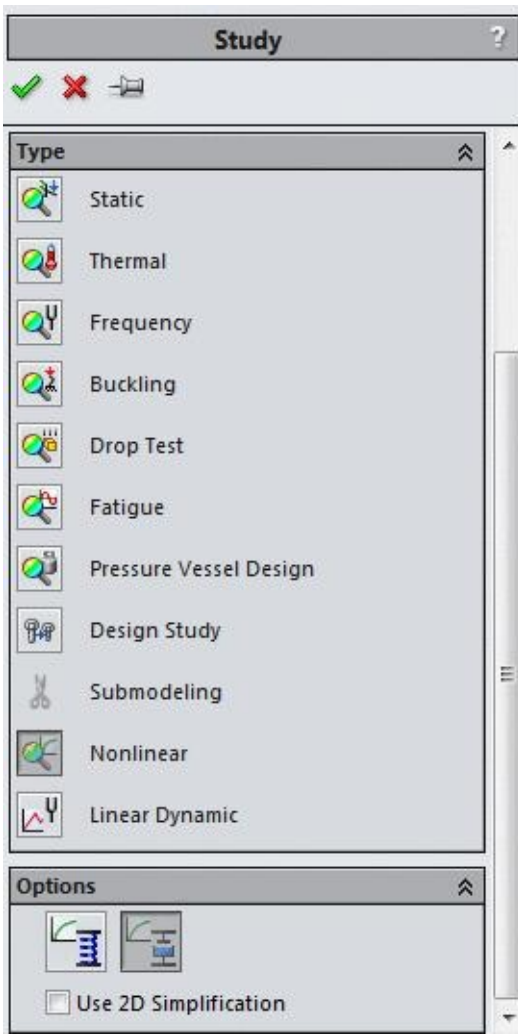

Figure-15. Study PropertyManager
- Click on the **Nonlinear** button and then on the **Dynamic** button from the **Options** rollout; refer to Figure-15.